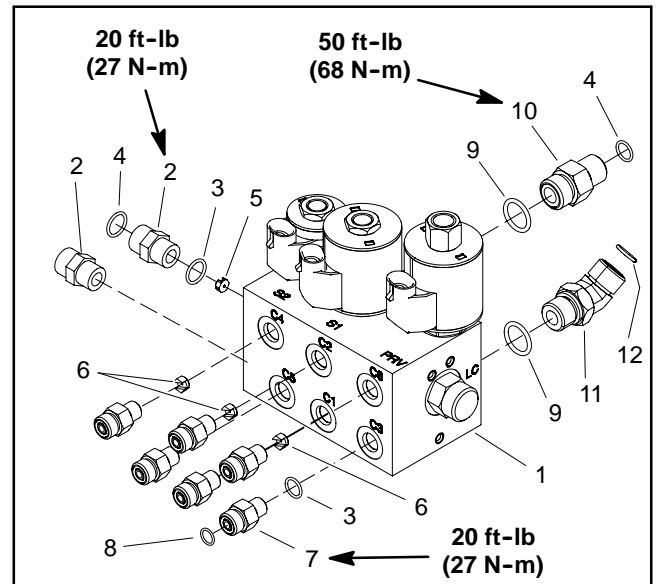

Figure 91
8. Remove two (2) flange head screws that secure manifold to machine frame.
IMPORTANT: A flow control orifice is placed beneath several hydraulic fittings on the lift control manifold (Fig. 91). The lift manifold uses two (2) different orifice sizes. If fittings are removed from manifold and an orifice is in the manifold port, make sure to remove orifice and label its position for assembly purposes.
10. If necessary, remove hydraulic fittings from manifold (Fig. 91). Discard any removed O-rings. Locate, retrieve and label orifice from manifold port (if equipped).
1. If fittings were removed from manifold (Fig. 91):
- C. Install fittings into manifold. Torque fittings to torque values identified in Figure 91.
2. Position lift control manifold to frame. Install two (2) flange head screws but do not fully tighten.
5. Secure hydraulic manifold to frame by tightening two (2) flange head screws.